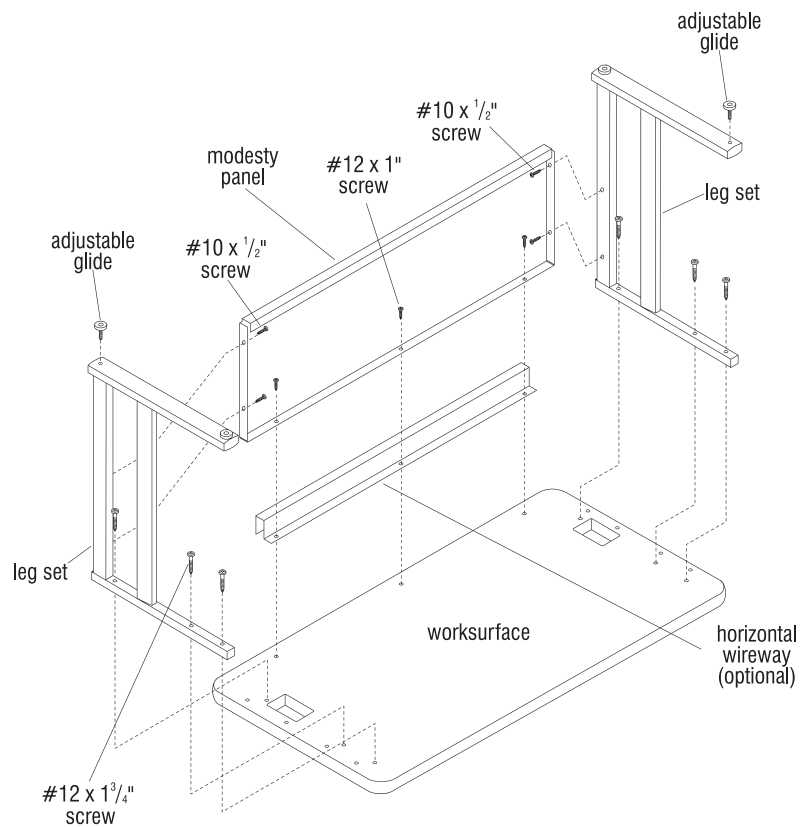

Figure 1
2. Attach two leg sets to worksurface bottom by aligning legs to pre-drilled holes and inserting three #12 x 1 3/4" screws per leg set (Figure 1).
3. Align modesty panel between leg sets. If optional horizontal wireway is to be installed to unit, place the wireway between mounting flange of modesty panel and the worksurface, aligning the mounting holes as illustrated. Insert two #10 x 1/2" screws per left and right side of modesty panel into leg. Do not tighten at this time (Figure 1).